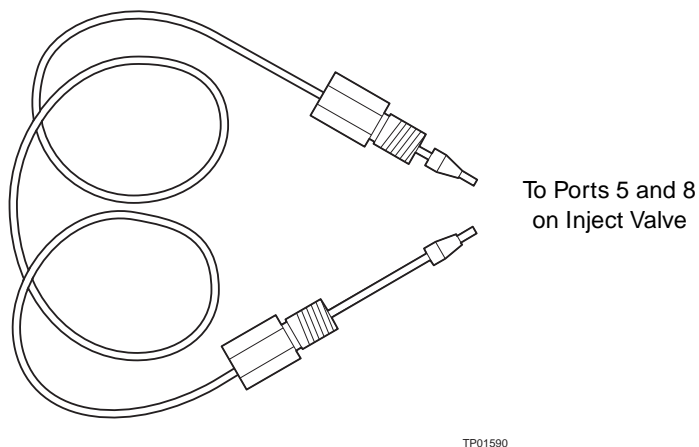

Figure 7-24 Sample Loop (Assembled)
5. Remove the sample loop and its fittings (Figure 7-24).
7. Slide a ferrule and compression screw onto one end of the sample loop as shown in Figure 7-24, then seat the end into the #5 inject valve port.